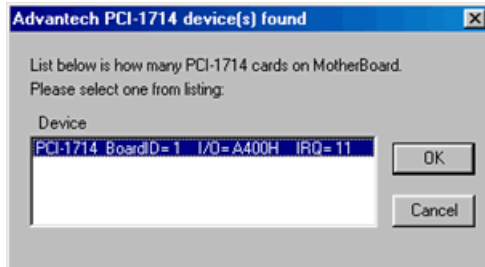

Figure 2.5: The “Device(s) Found” Dialog Box
3. Scroll down the *Supported Devices* list to find the device that you want to install, and then click the *Add...* button to evoke the *Device(s) Found* dialog box like the one shown in Figure 2.5. The *Device(s) Found* dialog box lists all the installed devices on your system. Select the device you want to configure from the list box and press the *OK* button.